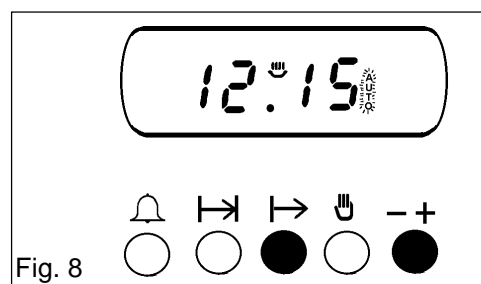

Fig. 8
- v) Set the STOP time. Press the stop time button () and while holding it down, turn the increase control (+) until the required stop time is displayed, e.g. 12.15p.m. as Fig. 8. If necessary turn the decrease control (-) until the correct time interval is achieved.